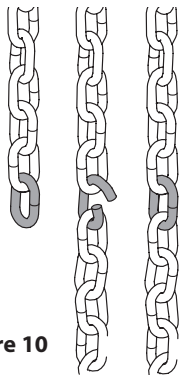

Figure 10
- 2) Connect the hand chain ends together as shown in **Fig 10.** by twisting open the last link on one end of the chain, and slipping the last link on the opposite end onto the open link.